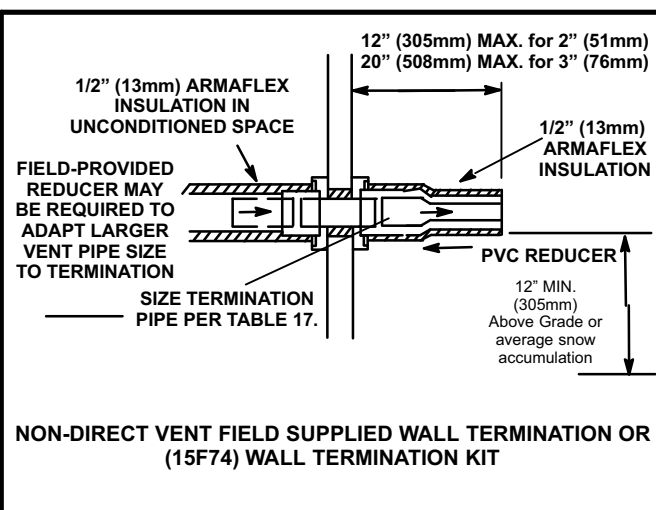

FIGURE 53
2. On field supplied terminations for side wall exit, exhaust piping may extend a maximum of 12 inches (305mm) for 2" PVC and 20 inches (508mm) for 3" (76mm) PVC beyond the outside wall. See figure 53.